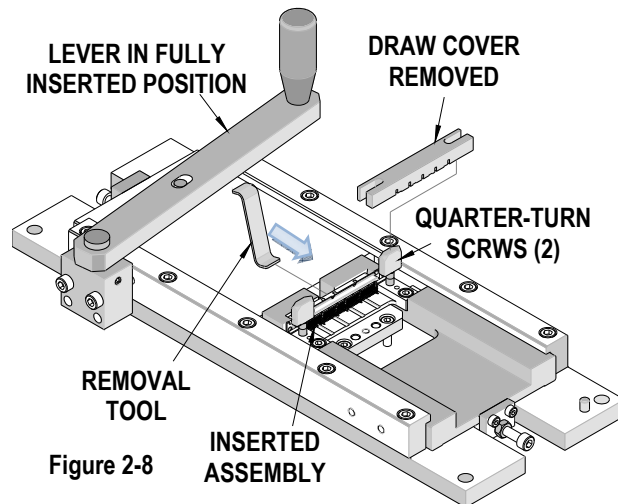

Figure 2-8
12. In the fully inserted position, lift the drawer cover up by turning the two quarter-turn screws 90°. See Figure 2-8.